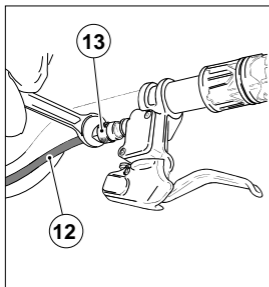

Fig. 9
- using an 8 mm forkwrench unscrew the connector (13, fig. 9) on the pump valve. Take the tube off the pump;
- reassemble the tube on the pump and tighten the lock ring (13, fig. 9) by hand on the one-way valve until it stops turning;
- pull on the tube to check that needle insert (14) and biconical bush (15) are correctly mounted in the lock ring (13).